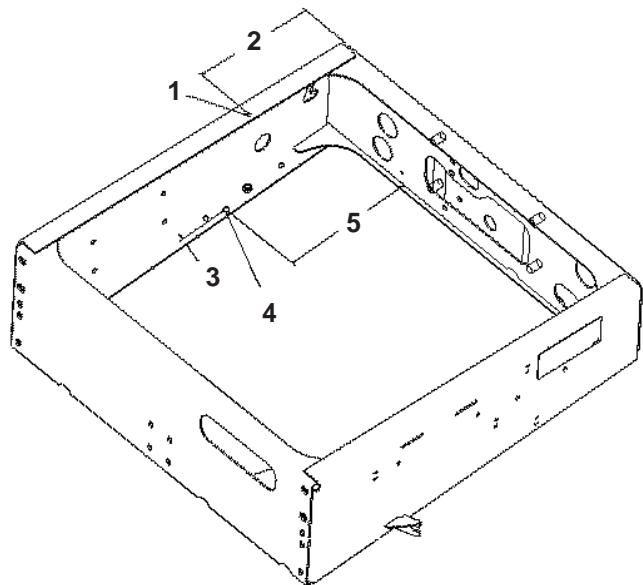

Figure 12
- If the prop rod U-bracket is installed in this position, remove the bolt securing the prop rod and enlarge the hole in the prop rod bracket and frame to 15/32 inch dia (Fig. 12).
3. Drill a 15/32 inch dia hole through the frame at the location (4) illustrated in Figure 12.